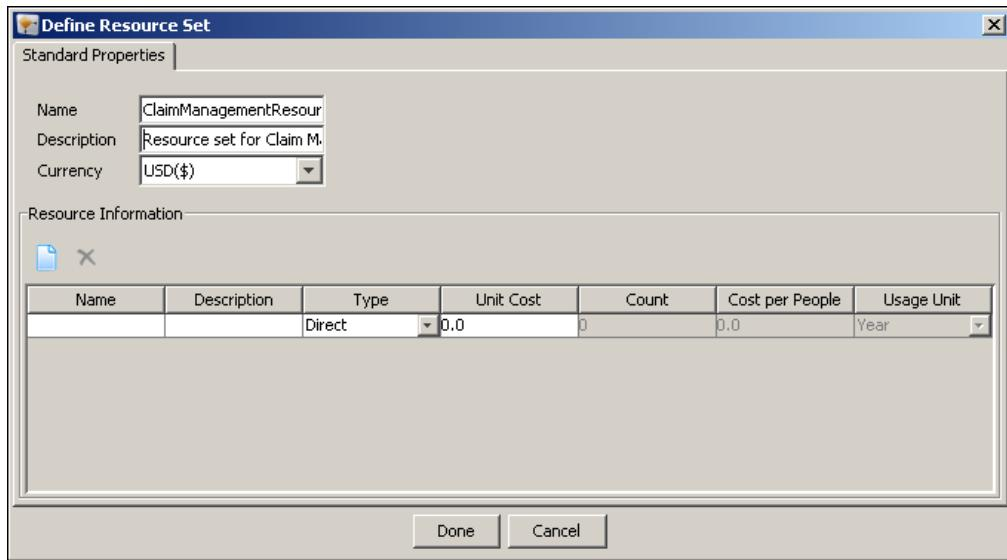

Figure 4: Create New Resource
1. In the Process Simulator applet, click **Create New Resources** () icon. The **Define Resource Set** dialog box appears (see Figure 4).